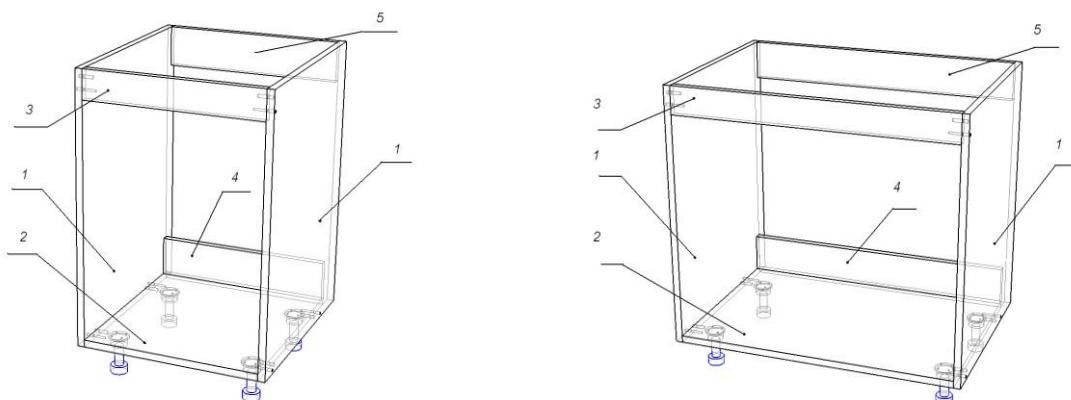

Fig. 39
3. Assembly of M01, M02, M20 sink body (Fig. 39):
- assemble the side panels (1), front plate (3) and lower horizontal (2) using 8 screw-strainers 7x50 and 8 wood dowels;
- install the plate (5) using two screw-strainers 7x50;
- the plate (4) is installed (if desired) by means of screw-strainers after the base cabinet is adapted (cuts in the body) to the kitchen utilities;